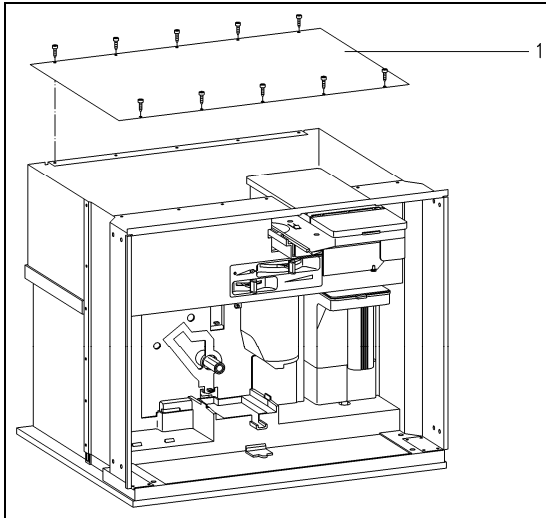

Figure 5-1: Lid with Screws
1. Remove the lid screws, as shown in Figure 5-1.